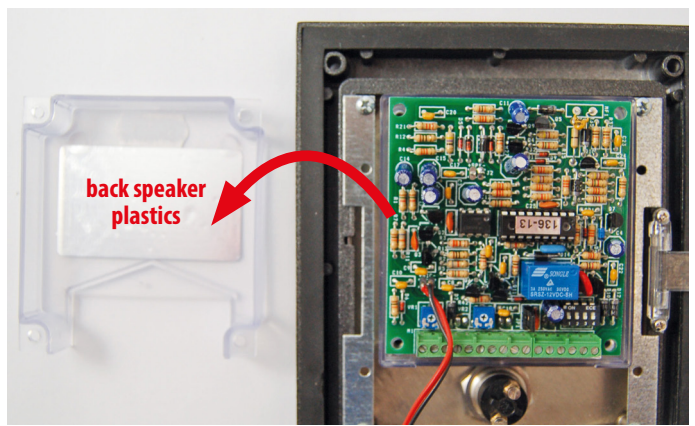

Fig. 21
3. Next remove the back speaker plastic from the main speaker pcb, as shown in **Fig.21**.